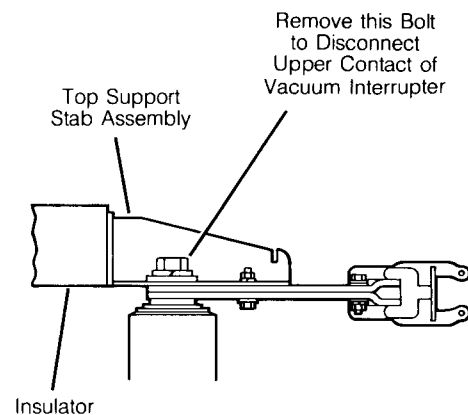

Figure 65. Disconnecting Top of Vacuum Interrupter.
6. **Figure 65** shows the mechanical connections to the fixed, or upper, contacts of the vacuum interrupter. Remove the bolt holding the upper stab support, the upper primary contact and the vacuum interrupter fixed contact together.